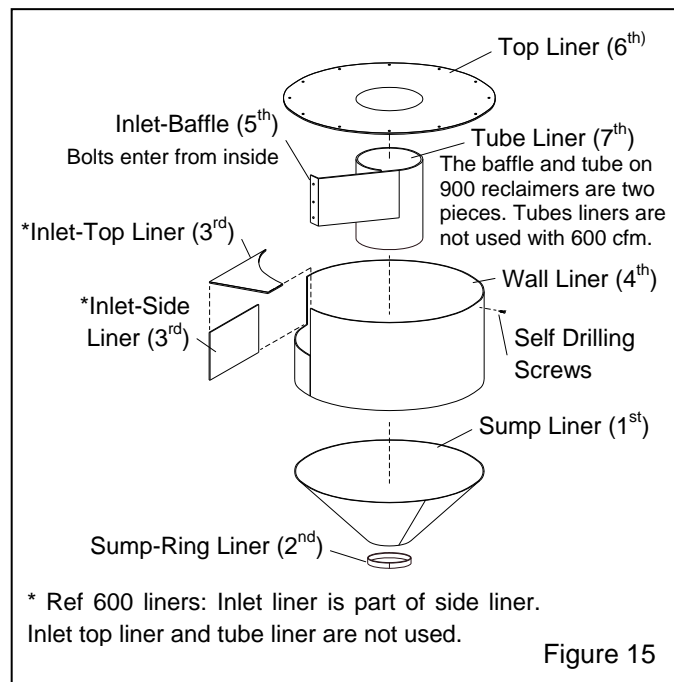

Figure 15
7.10 Replacing Optional Reclaimer Rubber Liners, Figure 15, Available for 600 and 900 cfm reclaimers. Reclaimer must be designed for liners and have a removable top.